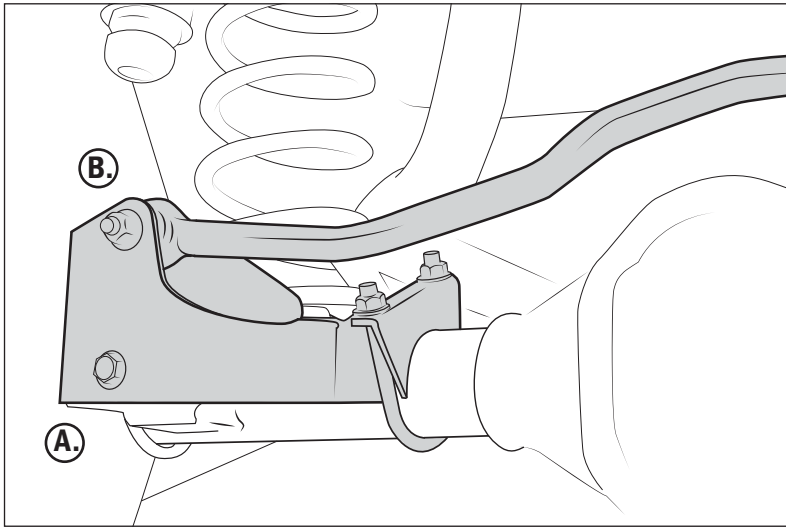

Figure 4
1. Install the track bar tower (fig. 4). Tightening U-bolt to NO MORE than 40 ft lbs. Use supplied bolt and washer in bottom hole (A) and tighten to 80 ft lbs. Install the new AEV track bar reusing the factory hardware to install the track bar, reversing the direction of the hex bolt as shown (B). DO NOT tighten at this point. (NOTE: for right hand drive vehicles, reinstall factory track bar)